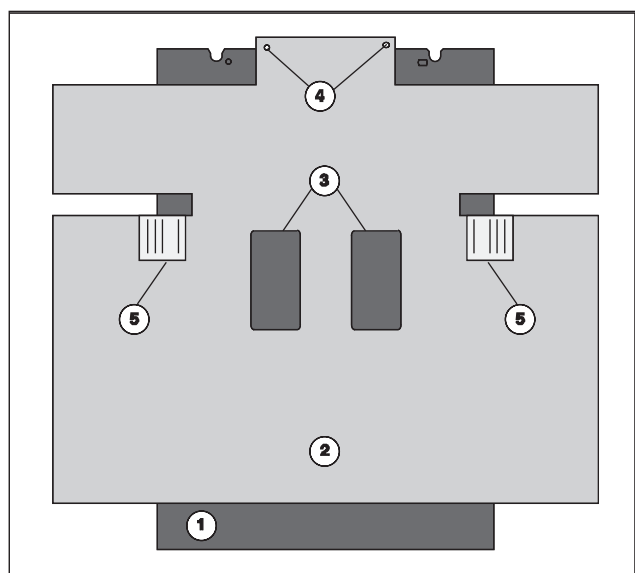

Fig. 4 Punch template
The **punch template** (Fig. 4/2) is an alignment foil which is hooked onto the plate punch. Its purpose is to correctly align the printing plate prior to punching if, for example, the front edge of the plate has not been cut at right-angles to the plate edges. The printing plate (Fig. 4/1) is slid **under** the punch template.
1. Place the punch template (Fig. 4/2) onto the printing plate punch and hook its holes (Fig. 4/4) onto the stop pins of the printing plate punch.
2. Slide the printing plate (Fig. 4/1) under the punch template (Fig. 4/2) up to the stop.
3. Align the printing plate laterally in a central position with the side stops. The lines (Fig. 4/5) make the alignment easier.
4. Position the lateral stops slightly away from the printing plate. Align the print image of the printing plate through the recesses (Fig. 4/3) of the punch template precisely with the millimeter grid of the punch template.
5. Hold the printing plate tightly in place in the recesses (Fig. 4/3) of the punch template and pull the lever of the plate punch down to the stop.